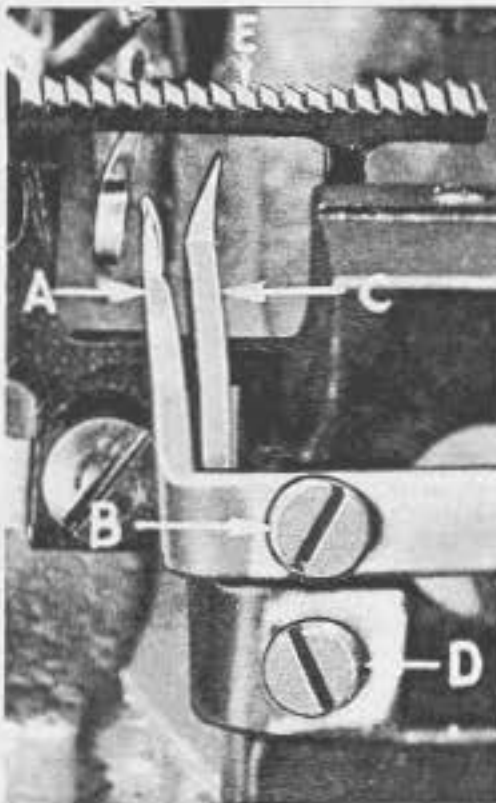

Fig. 4
Now assemble main (front) feed dog (E, Fig. 4)
Set rear needle guard (A, Fig. 4) as high as possible, without interfering with either lower looper or movement of lower knife holder; but still in position to deflect needle forward .002 - .004 inch. Screw (B) is used to set rear needle guard.
Assemble front needle guard (C, Fig. 4). When lower looper is springing needle off back guard, set front needle guard as close as possible to needle without touching. Screw (D) is used to adjust and set front needle guard. After this setting, make sure there is no interference between needle guards and main feed dog.